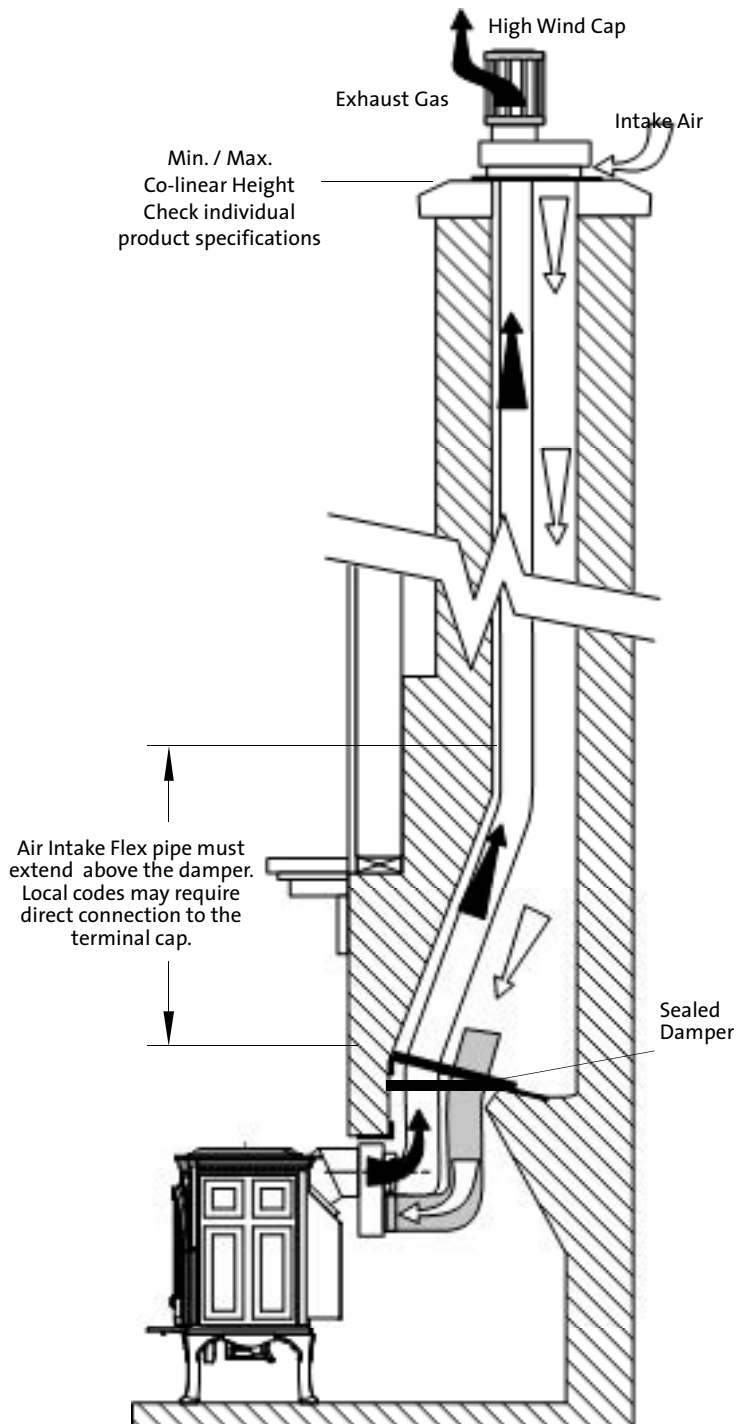

Figure 3. Flexible Co-linear Vent System through existing fireplace chimney.
Colinear Vent is intended for vertical termination only and is used when it is necessary to vent a stove or fireplace insert through an existing masonry, or factory-built (ZC) fireplace, or Class A prefabricated chimney. Separate, 3 inch diameter, flexible intake and exhaust pipes are run through the chimney and connect to a coaxial adaptor at the appliance. Use only a Colinear Flexible Vent system approved for use in a solid-fuel burning fireplace. See figure 3.